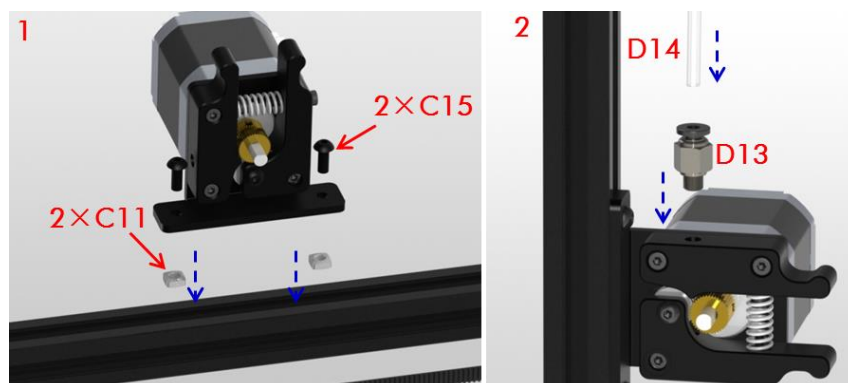

Fig. 24
Step 3. As shown in Fig. 24, lie down the main frame and choose one of the 3 long Al-extrusions to fix the extruder on by using 2 pairs of C15 and C11. The position of the extruder should be a bit lower from the middle, which could be seen in the cover page. Next, find the quick connector (D13) and the feeding pipe (D14) and fix them onto extruder.